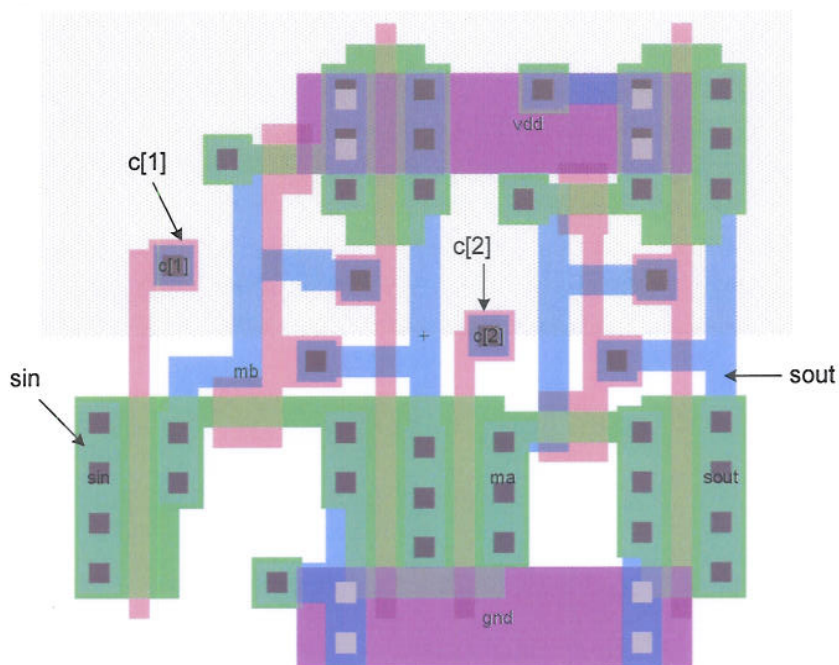

Figure 1.2 Layout of full-custom cell Q for Question 1
- b) *Figure 1.2* (see the colour supplementary sheet) shows the layout of an n-well CMOS circuit *Q* with four terminals: *c[1]*, *c[2]*, *sin* and *sout*. Extract and draw the transistor-level schematic diagram of this circuit.
- c) Assuming that the transistor connected to the terminal *sin* for the circuit *Q* in *Figure 1.2* is of size $20\lambda \times 2\lambda$, find the size of all transistors for the circuit.